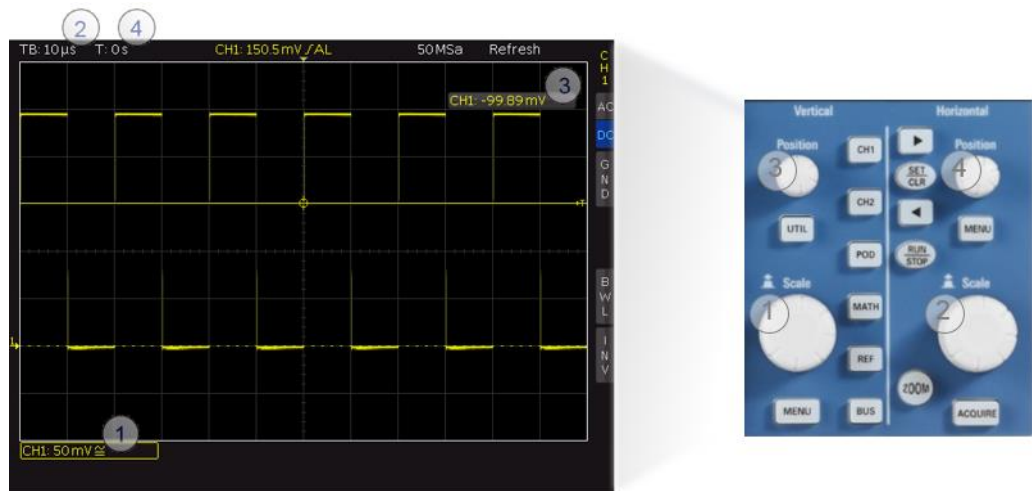

Fig.1-2: Basic settings for the horizontal and vertical systems.
The RTC1000 display is divided into 12 horizontal and 8 vertical units. This allows the user to make a quick visual assessment of the readings and to scale the axes. See Fig.1-2 for an introduction into the functionality for the horizontal and vertical systems.
The scaling for the vertical system is set using the large rotary knob labeled *VOLTS/DIV* (① Fig.1-2, right). The associated vertical scaling is displayed at the left, under the signal for each active channel. For example, 50 mV means that the height of one grid square is equal to 50 mV1. This setting then equals a vertical display over the entire range of  $50 \text{ mV} * 8 = 400 \text{ mV}$ .
The timebase is set in a similar fashion using the *TIME/DIV* rotary knob (② Fig.1-2, right). In the example provided in Fig.1-2, 10 μs is the length of one grid square. Consequently, the duration of the displayed signal is 10 μs \* 12 = 120 μs. Unlike the amplitude scaling, this setting applies to all channels. The rotary knobs labeled *POSITION* set the offsets for the vertical and horizontal systems.